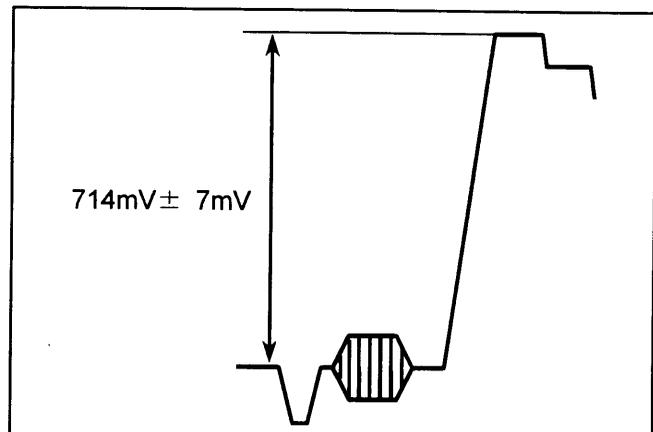

Figure 8
3. Adjust VR1 so that the Y level of VIDEO 2 OUTPUT becomes  $714mV \pm 7mV$  as shown in Figure 8.